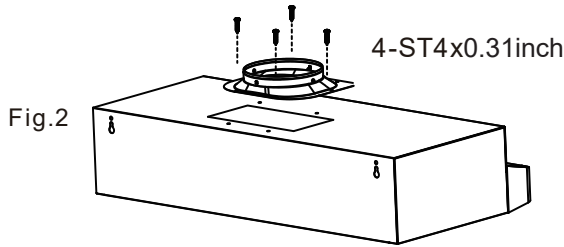

Fig.2
4. Take out the outlet from the cooker hood inside. To use 4pcs ST4x0.31inch screw to install the outlet. (Fig.2)